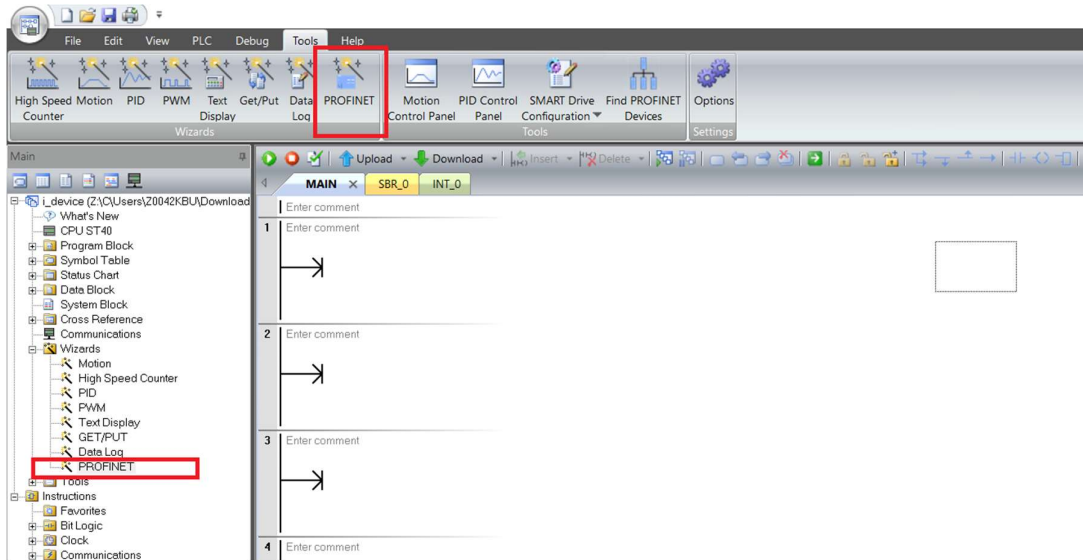

Figure 2. Open PROFINET wizard
- 2) There are two methods to open the PROFINET wizard, one of which is to open the wizard. as shown in Figure 2.